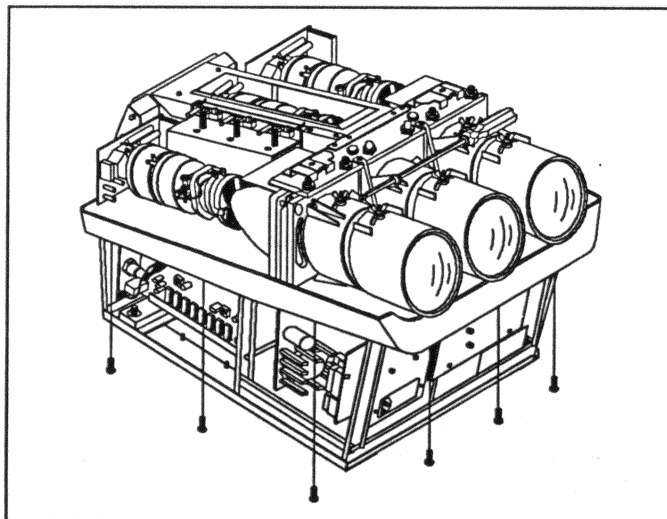

FIGURE 5-7. Lower Case Removal
- b) Remove the 16 Phillips head screws securing the lower case to the chassis. See Figure 5-7.